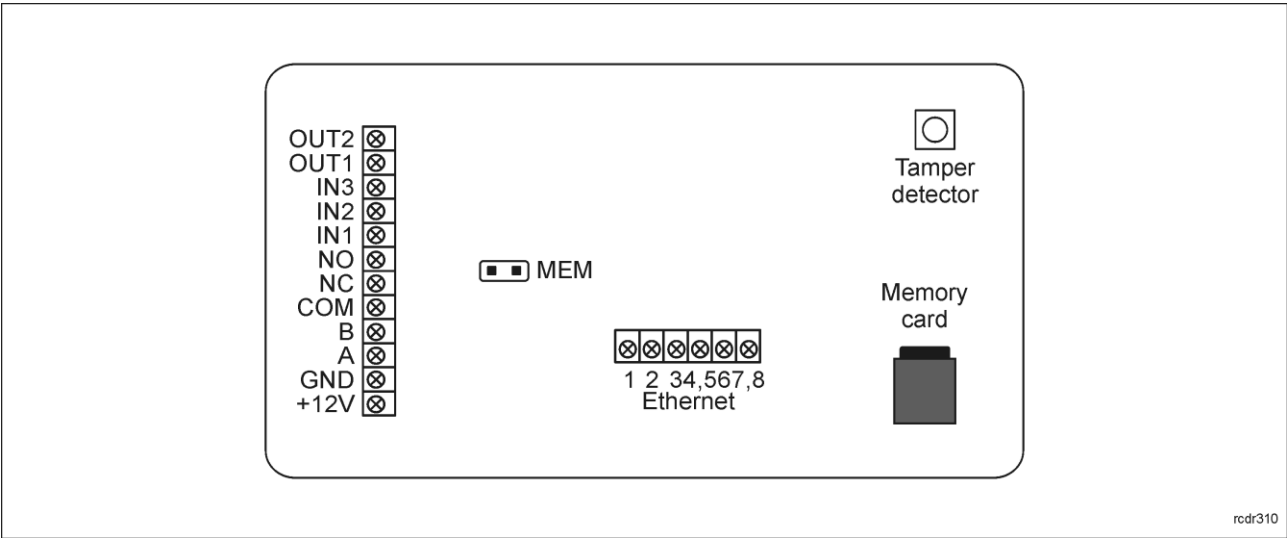
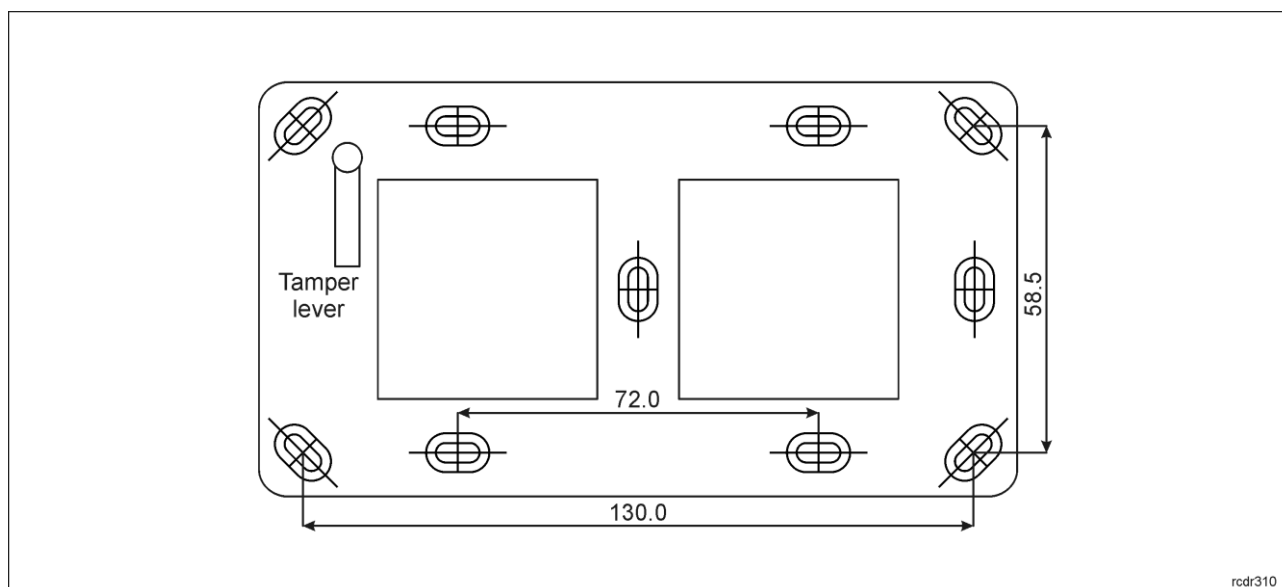

Fig. 15 Internal side of the front panel
Fig. 16 Back panel
Moreover, default functions key icons, splash screen, and screensaver can be replaced using a device memory card. Four new icons can be copied to the ICONS folder on the memory card (fig. 15) and they must be named as icon_001.bmp, icon_002.bmp, icon_003.bmp, and icon_004.bmp. The splash screen file in the same folder must be named as icon_000.bmp. Screensaver graphics must be named as scrnsvr.bmp and it must be copied to the main folder of the memory card instead of the ICONS folder. Icon files must be in bmp format, 60x60 pixels dimensions, and with 24-bit colour depth. Splash screen and screensaver pictures must be in bmp format, 320x240 pixels dimensions, and with 24-bit colour depth.
Built-in tamper (sabotage) detector enables detection of unauthorized opening of device's enclosure as well as detachment of the enclosure from wall. The detector is internally connected to the MCT88M-IO fourth input. It does not require low level configuration (RogerVDM) or any additional installation arrangements but it is essential to mount the terminal in such way that tamper lever (fig.16) would properly press the detector (fig. 15). The detector requires high level configuration which consists in assignment of the function [133] *Tamper Toggle* on the level of a *Main Board* of a controller in VISO software navigation tree.
- The back panel should be mounted with included screws according to fig. 16 in such way as the tamper lever would firmly press the tamper switch.
1. Place jumper on MEM contacts (fig. 15).